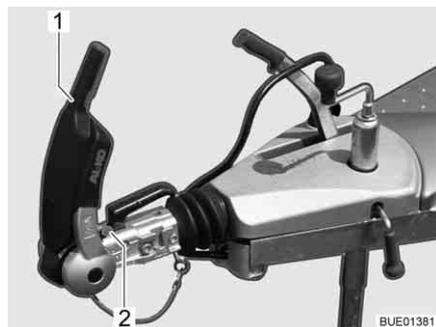

Fig. 203 Display friction pads, front and back
- Open the stabilising handle (Fig. 203,1).
The check is made using the indicator in front of the coupling handle (Fig. 203,2).